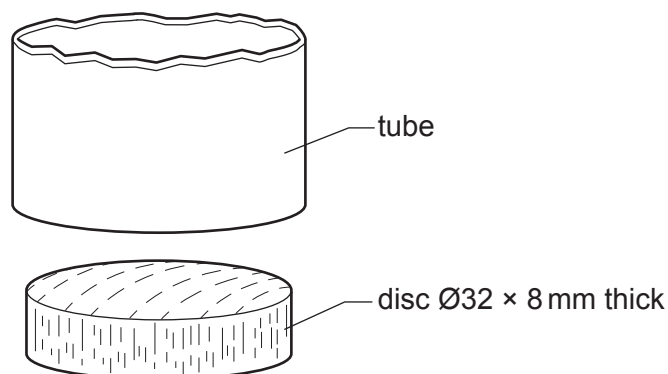

Fig. 13.6
- (f) Each of the acrylic tubes has its own position inside the base of the desk tidy. Each tube fits over a hardwood disc that is glued to the base. Fig. 13.6 shows details of one tube and one of the five discs.